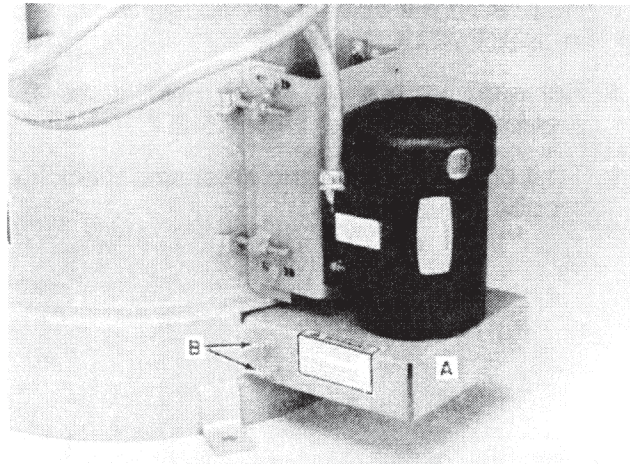

Figure 5-5
8. Reinstall shield, A, using hardware, B, Figure 5-5.
The cast limit stop is adjusted by using a setscrew. Limit stop, A, should just fully depress switch button, B, with the latching rod in its fully up position. When the brake is depressed, the rod moves downward and should move clear of the limit switch button, B, by the time the cover is free to swing, A, Figure 5-5.